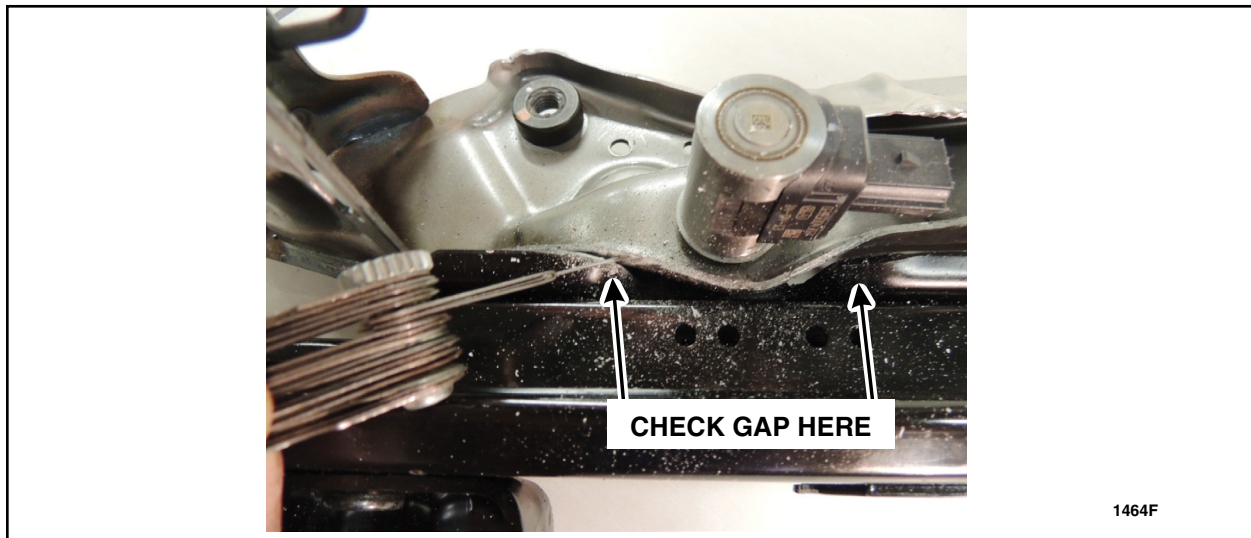

FIGURE 3
4. Using a wire feeler gauge, check to make sure that there is a minimum 0.7 mm (0.028 in) clearance between the seat frame and seat track. See Figure 3.